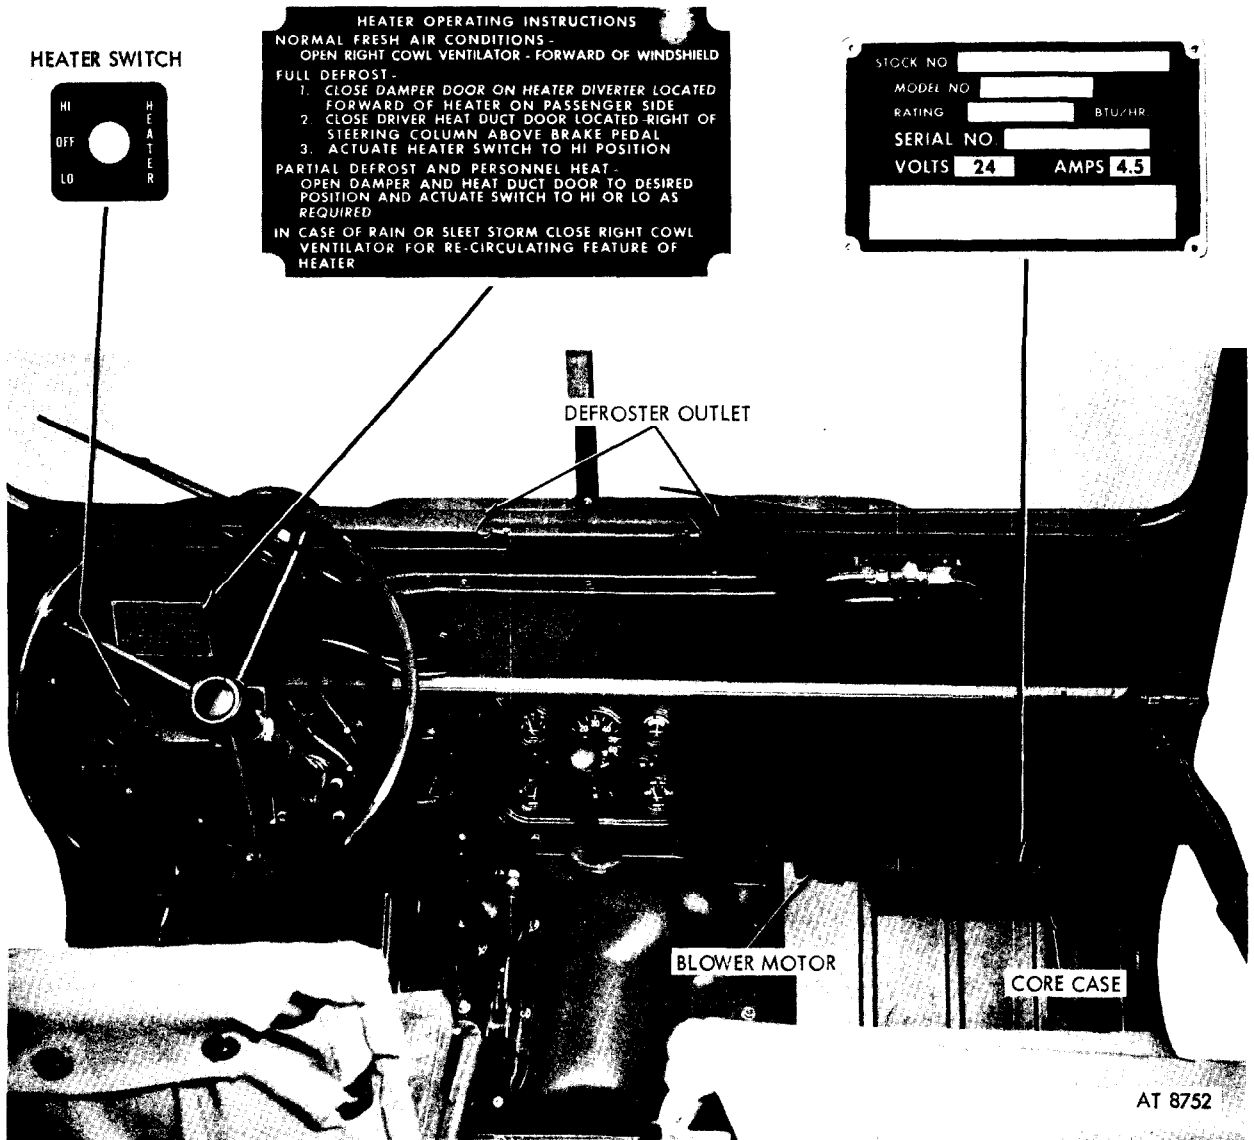

Figure 4-17. Caution and instruction plates for (-25° F) hot water heater.
f. *Name, Caution, and Instruction Plates.* Location and details of the plates are shown in figure 4-17.